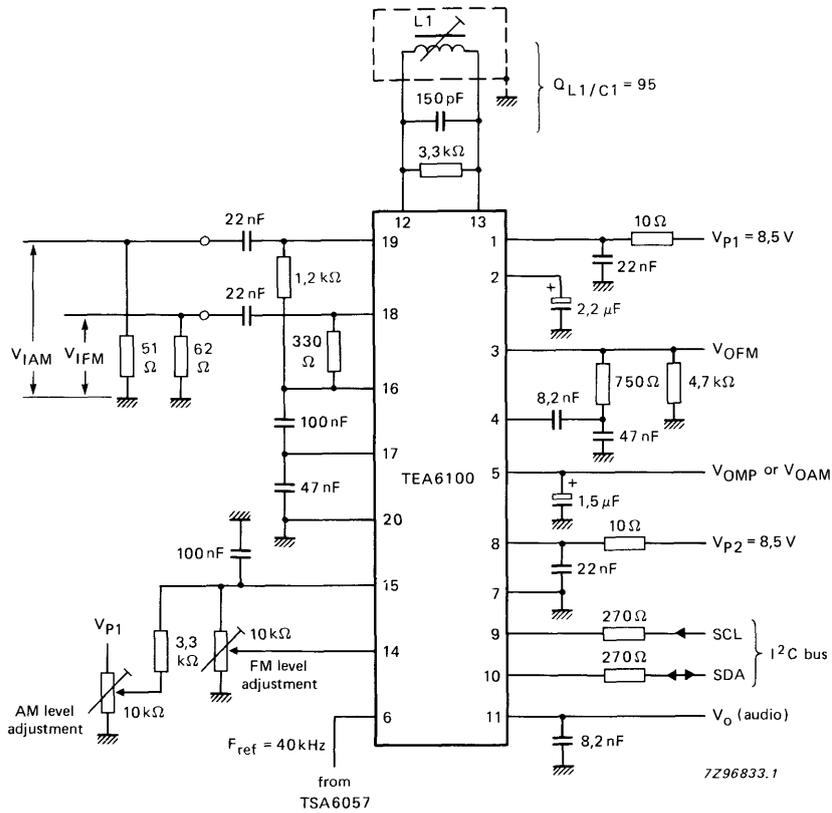

Fig. 13 Application diagram.
Output characteristics	see Fig. 13; note 3
1. All characteristics are measured from the circuit shown in Fig. 13.